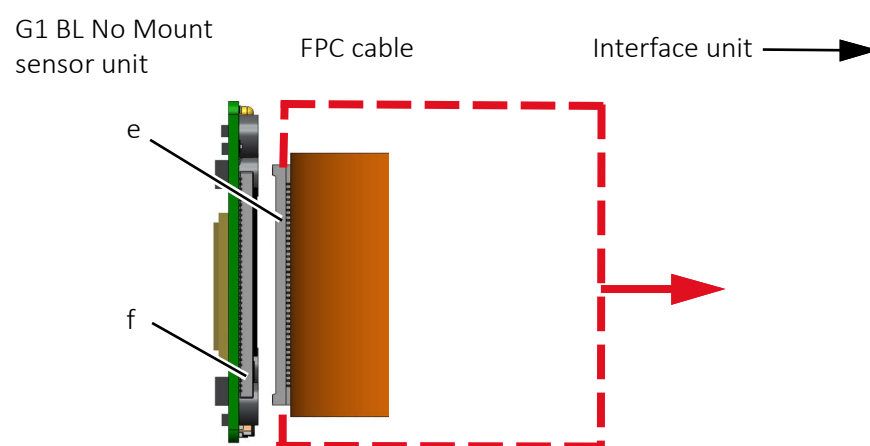

Figure 66: Disconnecting the interface unit from the sensor unit
- Disconnect the FPC cable **only** on the sensor unit side as shown in Figure 66.
2. With 2 fingers grabbing the cable side FPC connector (e) at the edges, disconnect the FPC cable from the FPC connector (f) of the sensor unit as shown in Figure 66.